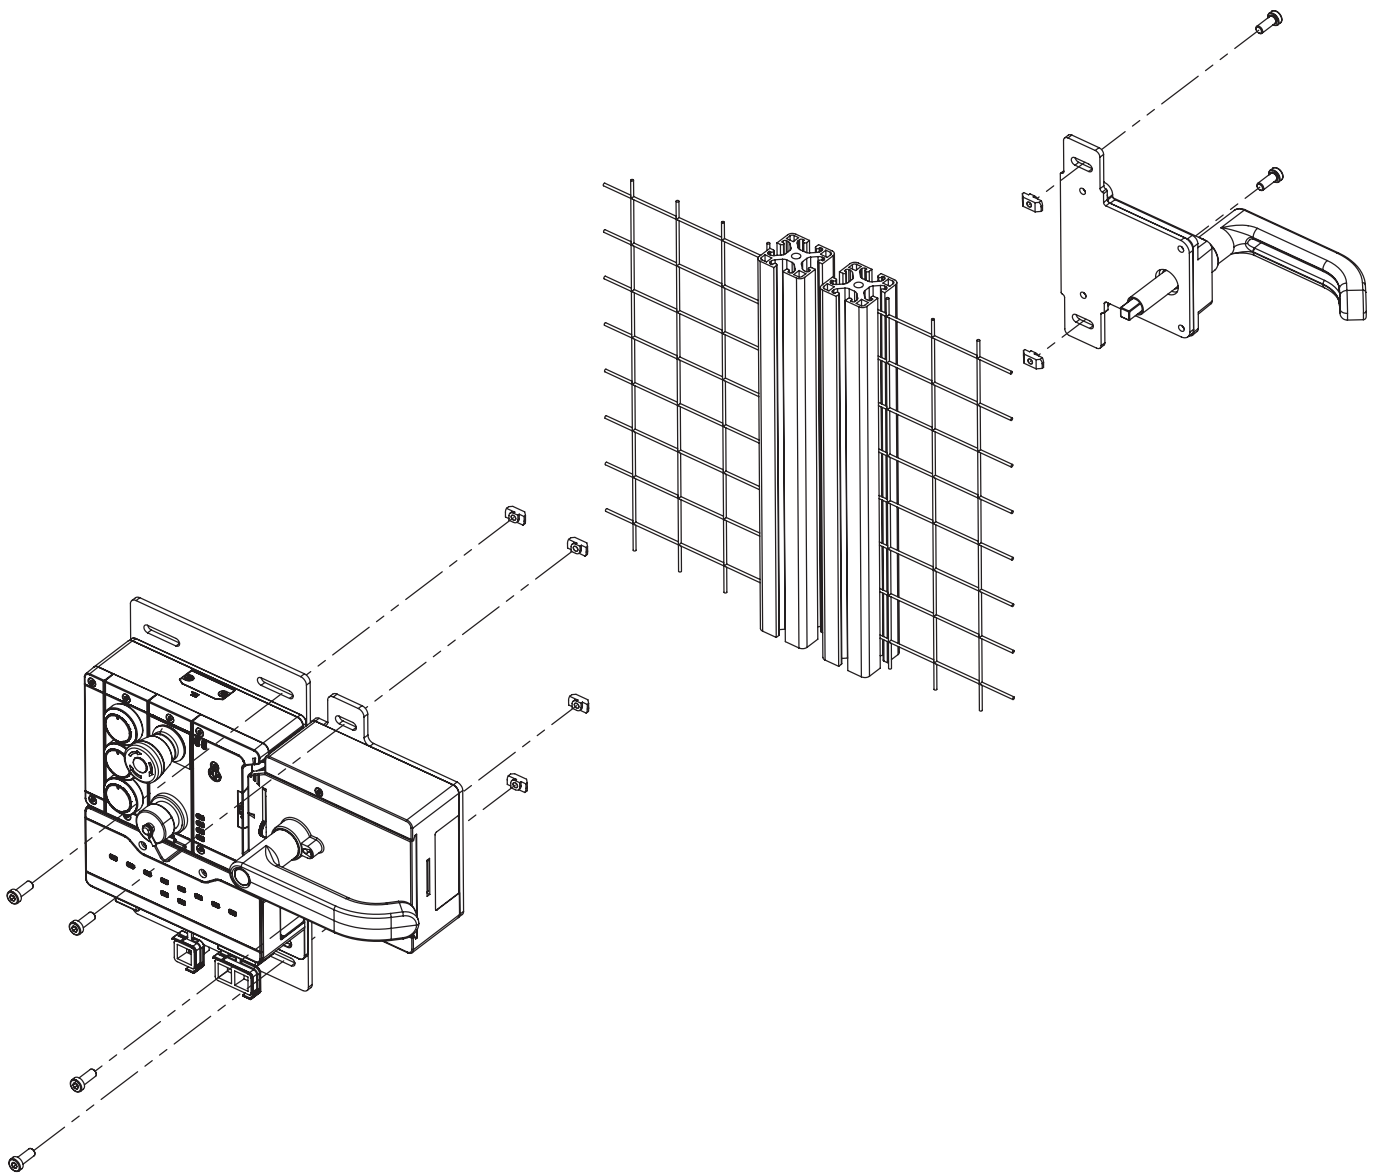
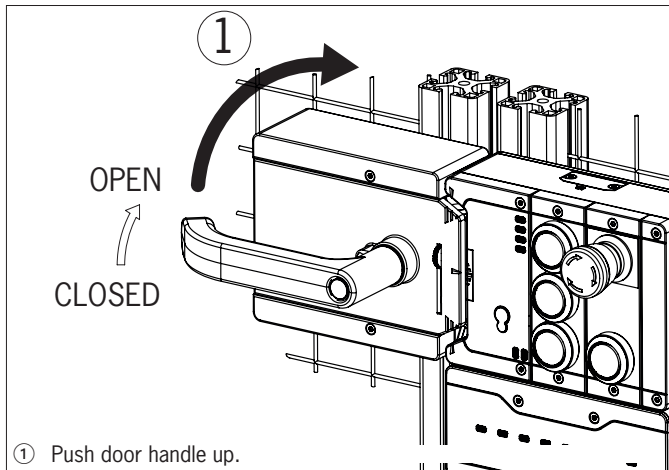
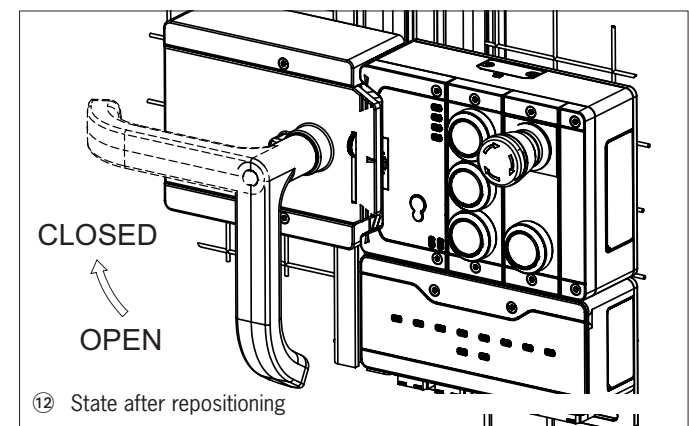

Fig. 8: Installation example for door hinged on the right (general view)
Fig. 10: Changing actuating direction, step ①
Fig. 15: Changing actuating direction, final state
- › During mounting, pay attention to correct alignment. Use the alignment aids on the housing for the locking module and on the housing for the handle module (see Fig. 8).
For mounting steps, see Fig. 8 and Fig. 10 to Fig. 15.
- › The system is mounted the other way up for doors hinged on the left. In other words, the guard opens by pressing up the door handle (see *Fig. 10*). For this reason the actuating direction of the door handle must be changed (see *Fig. 10* to *Fig. 15*).